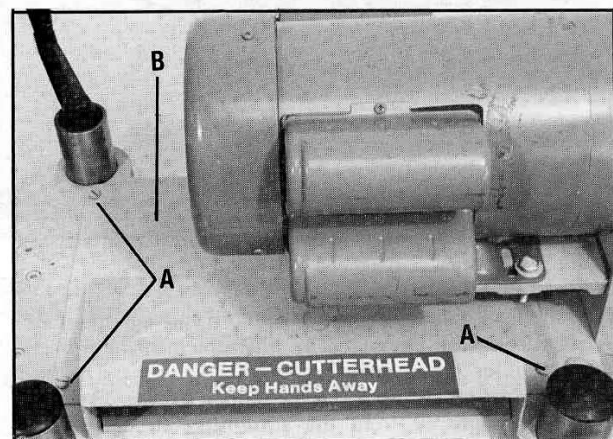

Fig. 47
2. Remove four screws, three of which are shown at (A) Fig. 47, and remove top cover (B).